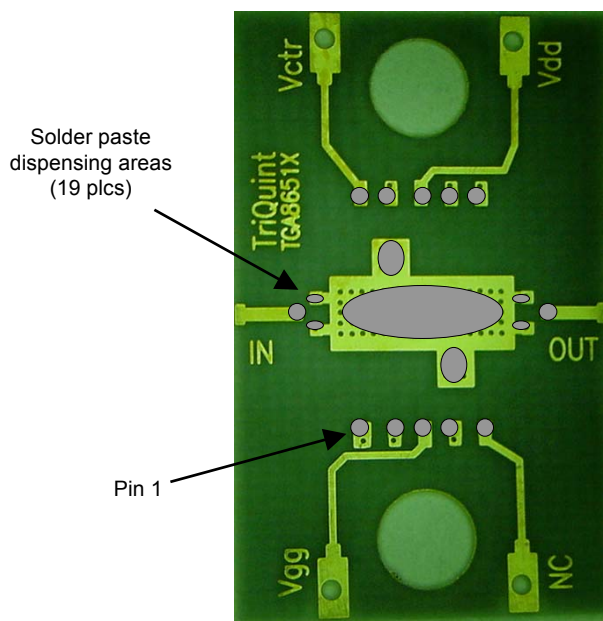

Figure 1: Solder paste dispensing pattern used on the evaluation board motherboard.
2. Using a standard SN63 solder paste, such as Kester SN63 R-560, dispense solder paste dots of 5 to 15 mil in diameter to the motherboard as shown in the example motherboard in Figure 1 below. Assure that there is a minimum of 5 mils and a maximum of 10 mils between the edge of each solder paste area and the closest edge of the ground pad.